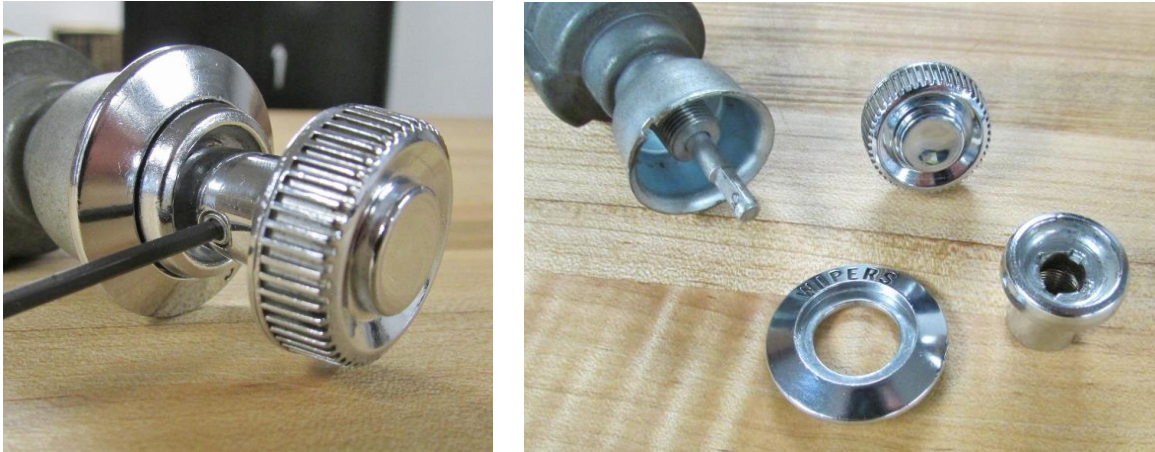

Figure 11 – Remove Wiper Knob and Nut
15. Loosen the set screw in the wiper knob to remove it from the wiper switch shaft. Remove the wiper nut from the wiper switch by unthreading it from the switch (Figure 11). The wiper switch bezel and switch assembly can now be removed from the dash.